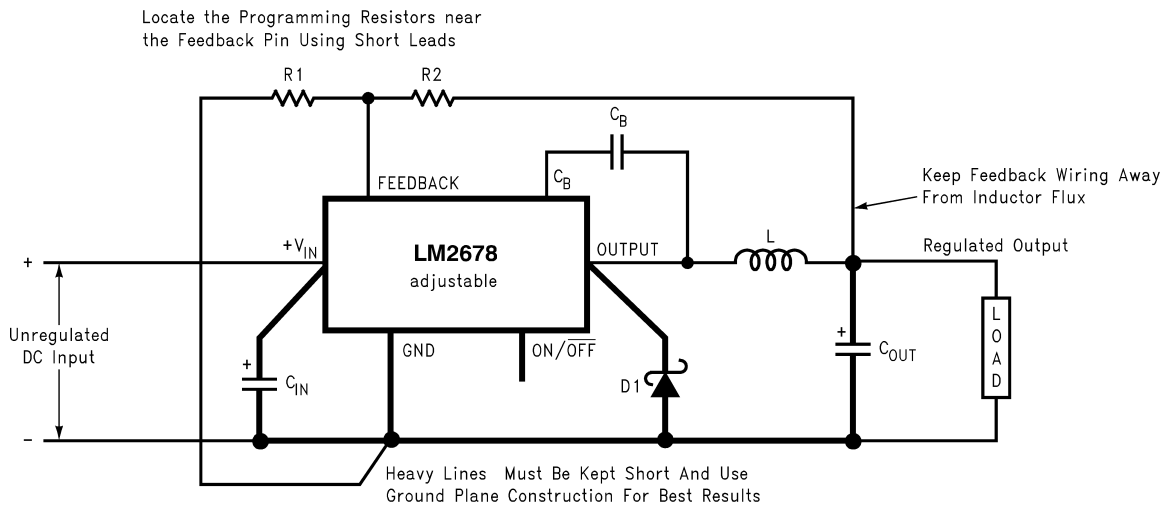

Figure 20. Basic Circuit for Adjustable Output Voltage Applications
Step 2: Select an LM2678S-ADJ. To set the output voltage to 14.9V two resistors need to be chosen (R1 and R2 in Figure 20). For the adjustable device the output voltage is set by the following relationship: